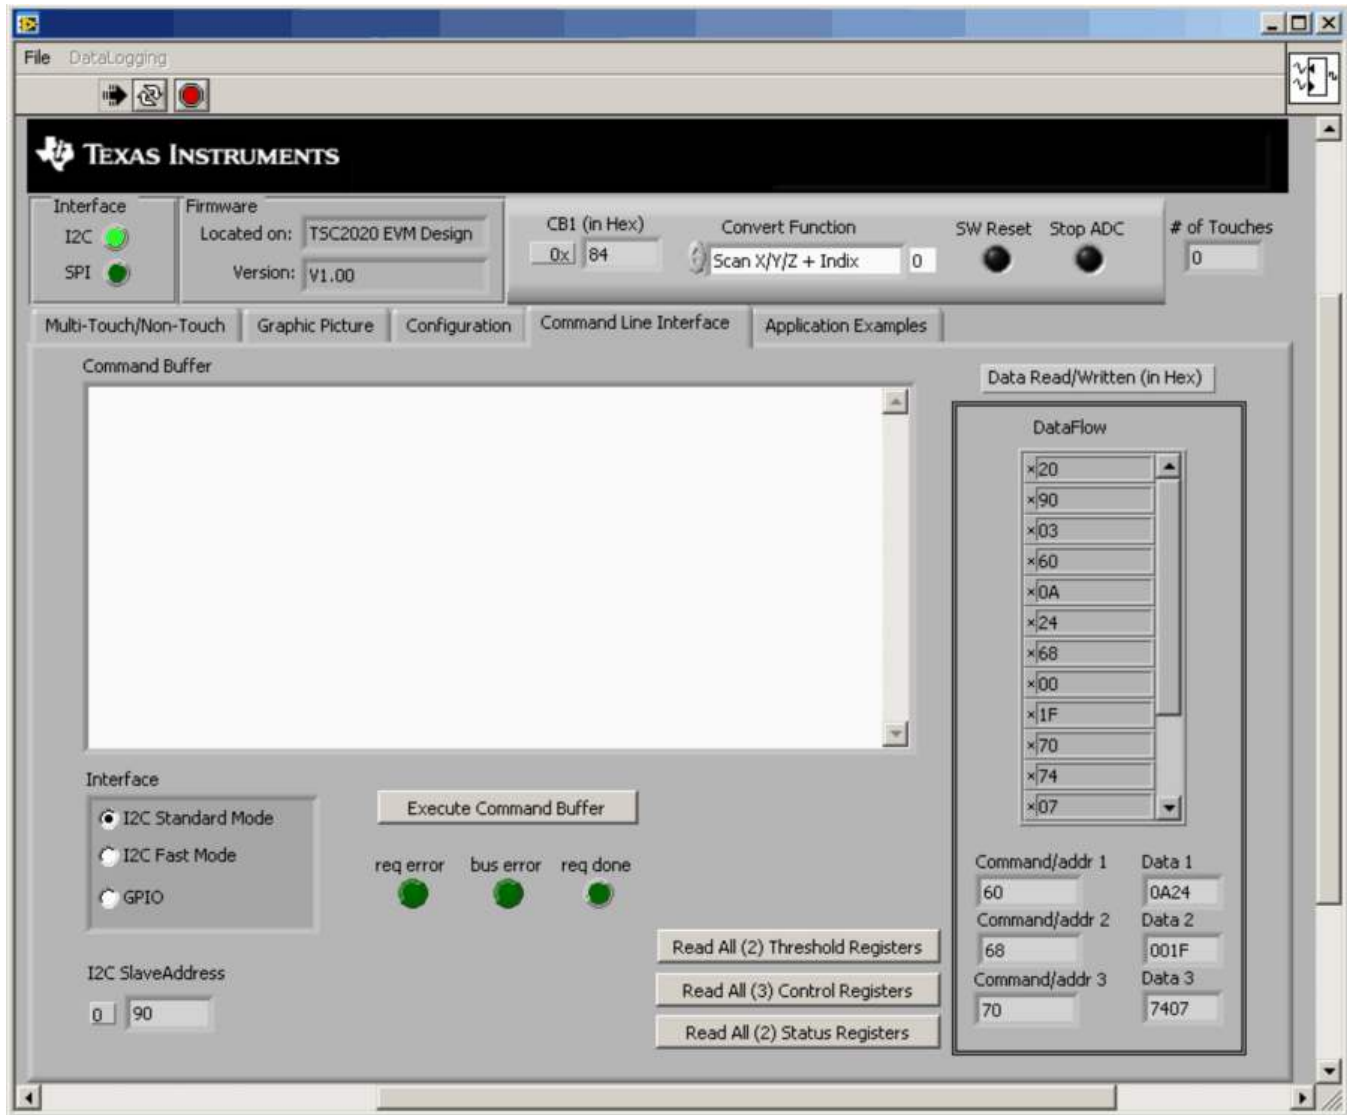

Figure 13. TSC2020EVM-PDK Software GUI: Command Line Interface Tab
Clicking on the *Command Line Interface* tab brings up a screen similar to that shown in Figure 13, which provides a flexible way to read from and write to the TSC2020EVM by the use of scripts.
Three read buttons reveal the contents of the Threshold, Control, and Status Registers of the TSC2020; these contents are also displayed in the *Data Read/Written* section of the screen. The data flow shows at the top of the screen, and is interpreted and listed correspondingly on the button. For example, Figure 13 shows a read result of the three TSC2020 configuration registers CFR0, CFR1, and CFR2 after clicking on the **Read All (3) Control Registers** button.